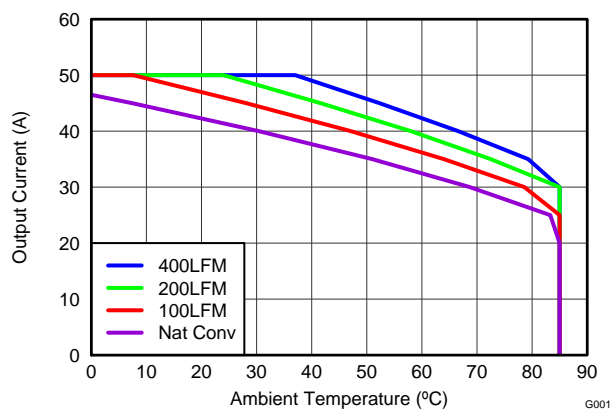
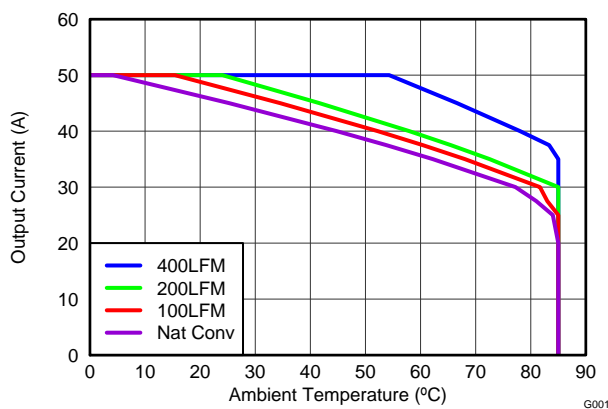
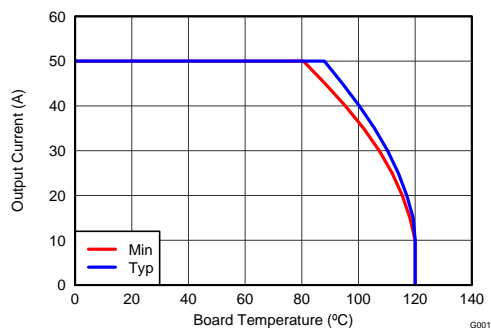

Figure 9. Safe Operating Area – PCB Horizontal Mount ⁽¹⁾
Figure 10. Safe Operating Area – PCB Vertical Mount ⁽¹⁾
Figure 11. Typical and Min Safe Operating Area ⁽¹⁾
The SOA curves in the CSD96371Q5M datasheet give engineers guidance on the temperature boundaries within an operating system by incorporating the thermal resistance and system power loss. Figure 9, Figure 10, and Figure 11 outline the temperature and airflow conditions required for a given load current. The area under the curve dictates the safe operating area. All the curves are based on measurements made on a PCB design with dimensions of 4.0" (W) x 3.5" (L) x 0.062" (T) and 6 copper layers of 1 oz. copper thickness.